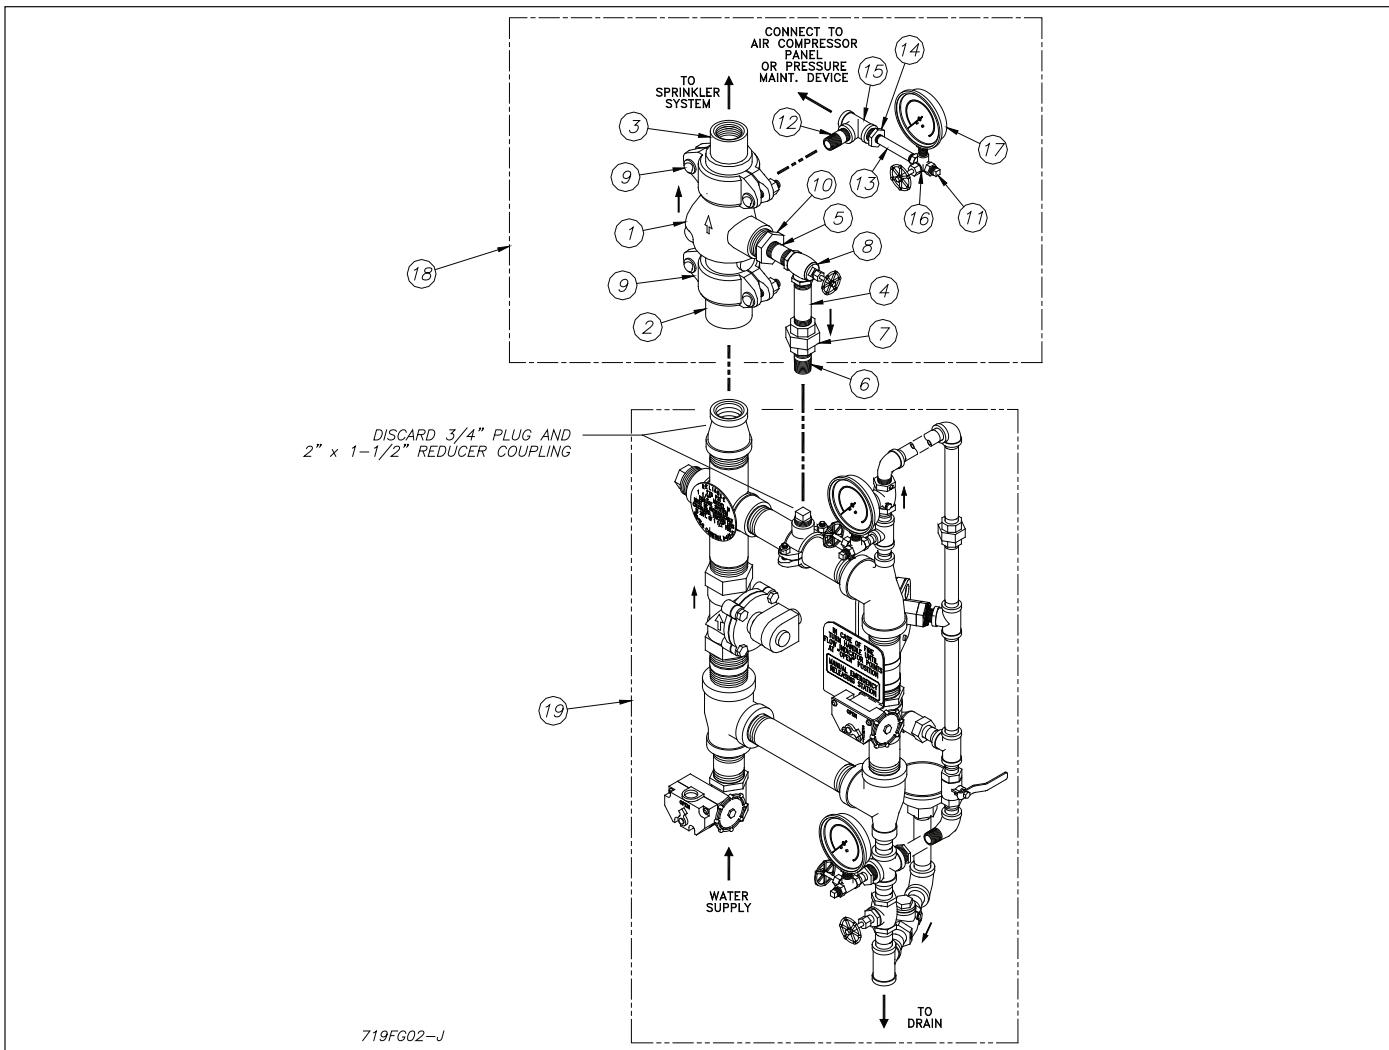

Figure 2 — Single Interlock Preaction Assembly
A Preaction Trim Kit is available to provide a bypass drain line and to attach the air or nitrogen supply required to supervise the preaction system at 2 psi (0,14 bar). This kit includes a UL Listed Reliable Model G Right Check Checkä supplied with rigid grooved pipe couplings, as illustrated in Figure 2.
The automatic sprinklers, air compressor, releasing devices, electric releasing control equipment, fire detection devices, manual pull stations, and signaling devices which are utilized with the Reliable Single Interlock System must be UL and/or ULC listed, as applicable. The Single Interlock Preaction Assembly (Figure 2) and all interconnecting piping must be located in a readily visible and accessible location and in an area which can be maintained at a minimum temperature of 40°F (4°C). **NOTE:** HEAT TRACING IS NOT PERMITTED.
The Preaction Trim Kit (P/N 6501200112) consists of items 1 through 17. The illustrated (Figure 2) assembly has a convenient arrangement for draining the sprinkler system through the Model H Riser Assembly drain line. Assemble the Preaction Trim Kit using a suitable Teflon-based pipe thread sealant applied to each male thread. Assemble rigid couplings by first applying a thin coat of silicone or other lubricant that does not contain hydrocarbons to the lips and outside surfaces of the gasket. Position gaskets uniformly on the valve and adjacent reducers so that all grooves are exposed. Place coupling housings over gaskets and engage the housing keys in the grooves. Insert bolts and tighten nuts alternately until housing halves are drawn together uniformly.
The recommended sequence of installation is as follows (refer to Figures 2 and 3):